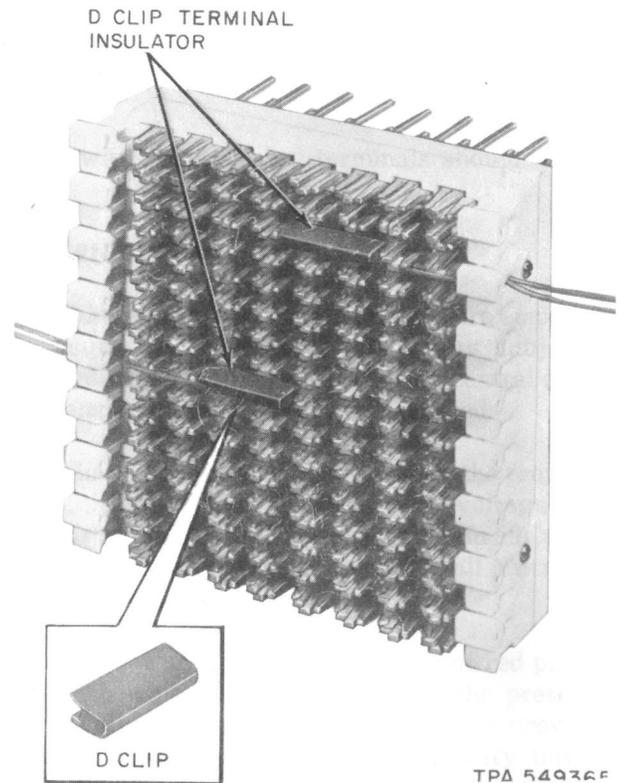

Fig. 5—Protection of Terminal Punchings—Special Service Lines—D Clip-Terminal Insulator as Used on 66H or 78B1 Connecting Block
- (2) D clip-terminal insulator for use on 66H or 78B1 connecting blocks (Fig. 5).